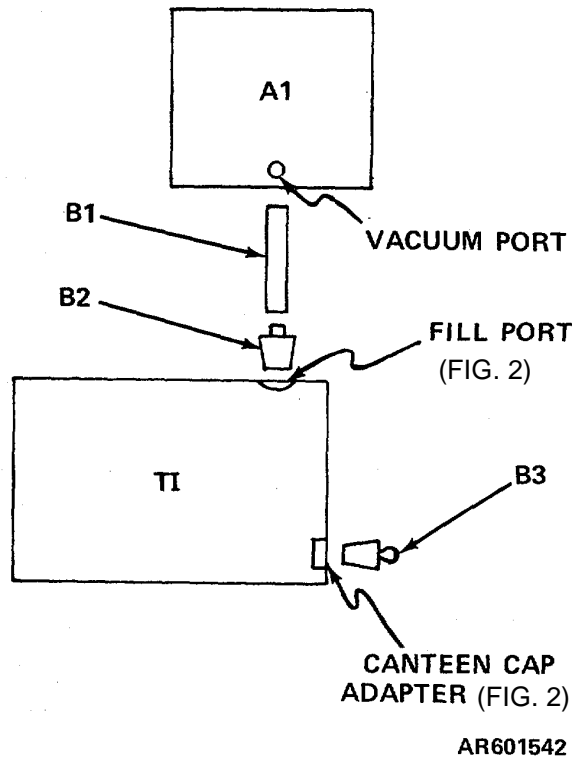

Figure 3. Gage performance test equipment setup.
(1) Connect the test equipment as shown in figure 3.
(2) Set fill cup valve handle to open.
(3) Slowly turn BLEED VALVE clockwise until the gage pointer indicates at 1 inch of water on the scale. The manometer (A1) must indicate as shown in table 4.
(4) Repeat (3) above for each major division (cardinal point) on the gage scale.